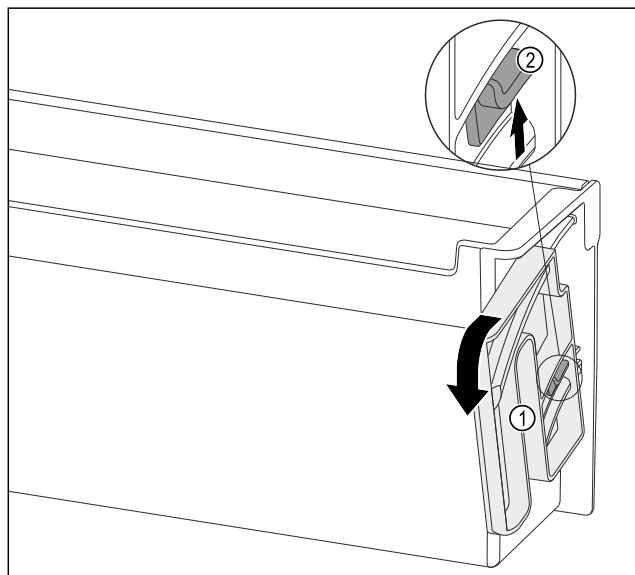

Fig. 142
- ▶ Turn the turning unit Fig. 142 (1) in the specified direction to the end stop.
- ▶ Press the tab Fig. 142 (2) up and remove the turning unit Fig. 142 (1).